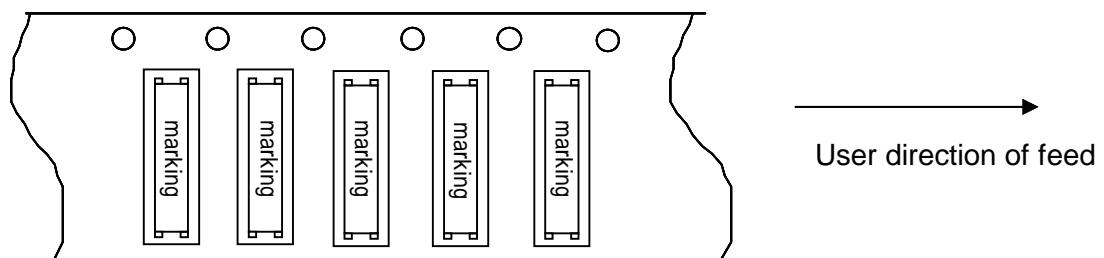

Fig. 1
(1) Taping shall be placed in tapes in such manner as to assure that marking of the components is visible as per Fig. 1
[Figure 1]
- (5) Sample of the label display (display department, please refer to [Figure 1] [Figure 2])